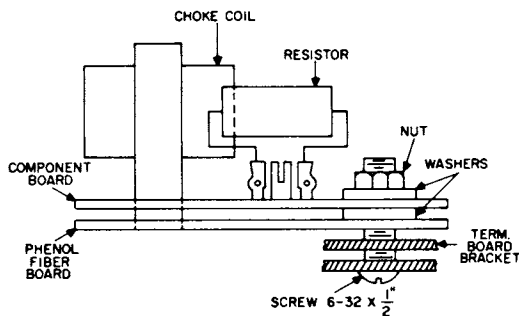

Figure 5. Installing Holding Bridge in Type 85C Telephone.
4.12 The inductive holding bridge assembly mounts on the telephone baseplate to the right and in front of the ringer with the long portion of the "L" shaped component board parallel to the side of the baseplate. The shorter portion will be directly below the exclusion key springs and parallel to the back of the transmission unit. Use the following procedures to install the holding bridge, referring to Figure 5.